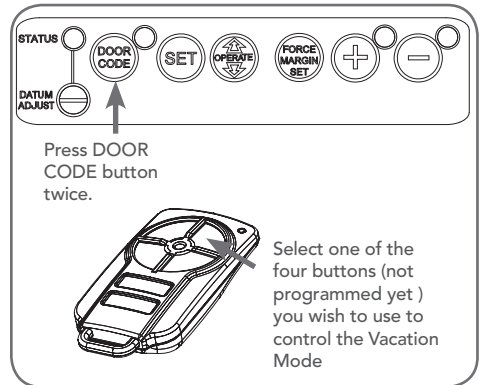

Fig. 8.2
- Briefly press the DOOR CODE button once, then press it again and hold (will beep two times on second press) **(Fig. 8.2)**.
- Press one of the four (4) buttons on the transmitter for two (2) seconds, pause for two (2) seconds, then press the same button again for two (2) seconds.
- Press and hold the transmitter button for six (6) seconds to activate Vacation Mode. The door code LED will stay lit while Vacation Mode is active.